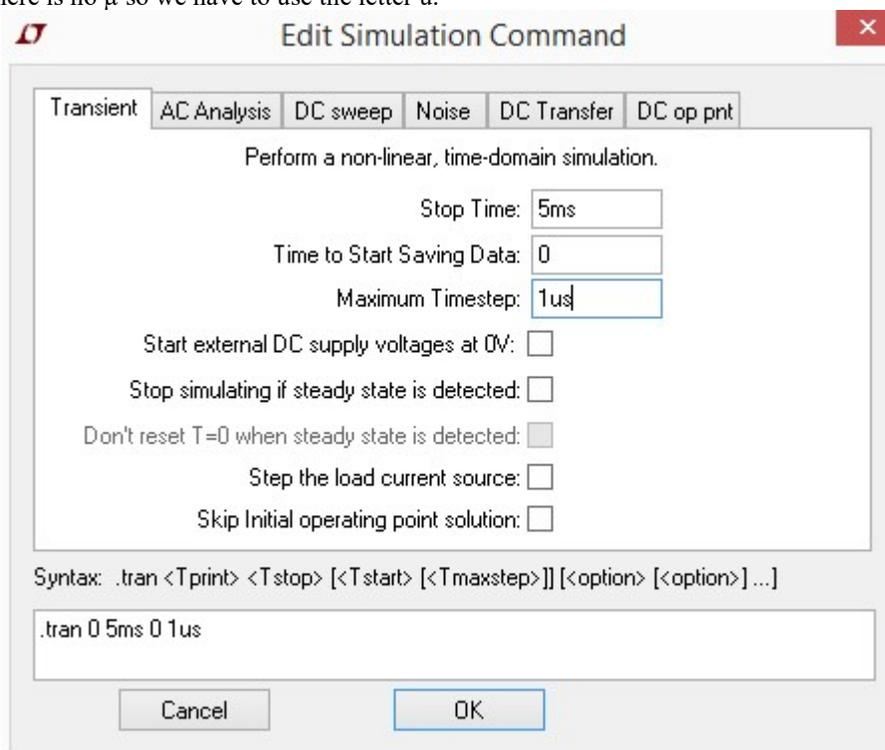

Figure A-6. Simulation Settings
- Find the *Simulation* drop-down menu and click and select *Edit Simulation Cmd*. You will get the window shown in Figure A-6. Select the tab for the type of analysis you wish to perform. In this case it is *Transient* since we are interested in output that is time-dependent like a scope. The simulation will begin at time $t = 0$, but we can choose to start saving data after that. Thus, we specify the *Stop Time* (the end time of the simulation), the *Time to Start Saving Data*, and the *Maximum Timestep* (the resolution of our simulation). **It is important to choose a maximum time step much less than the period of the signal.** Here we choose, 5ms, 0 and 1 μ s, respectively. Note that there is no μ so we have to use the letter u.